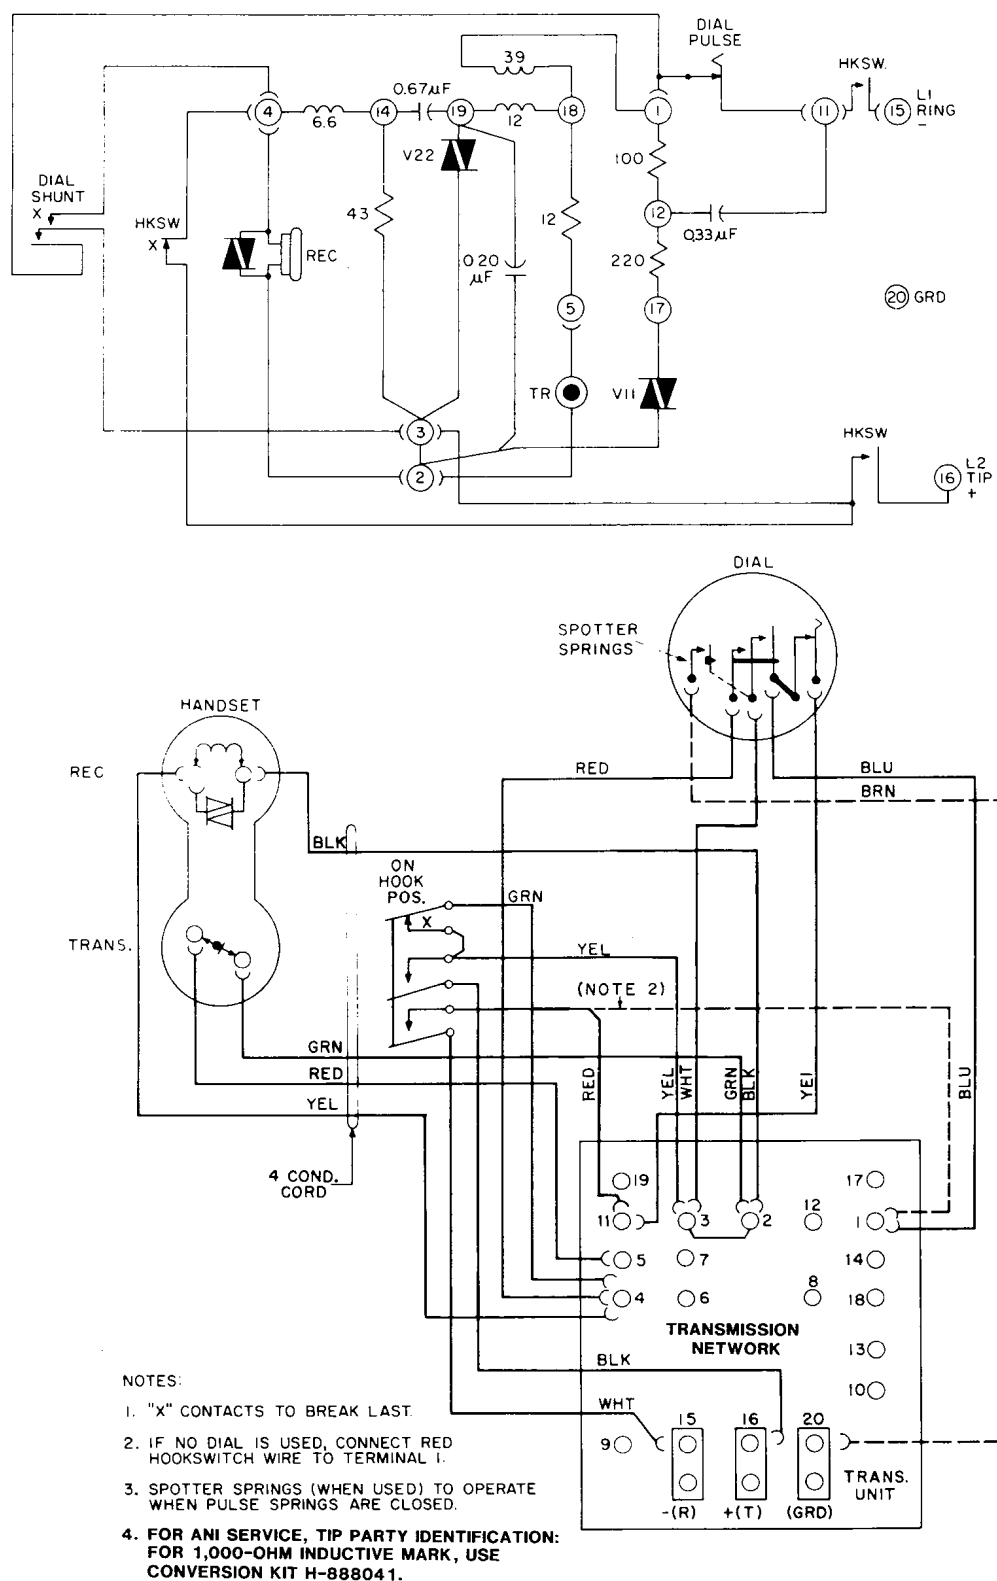

Figure 2. Schematic and Wiring Diagram for the Self-Compensating Type 183 Telephone Equipped With D-38387-C Transmission Unit.
2.02 The wiring diagram for Type 183 telephones equipped with self-compensating, steel-cased, potted transmission networks and modified for key system operation is shown in Figure 2. To modify these telephones for key system operation, perform the following procedure: